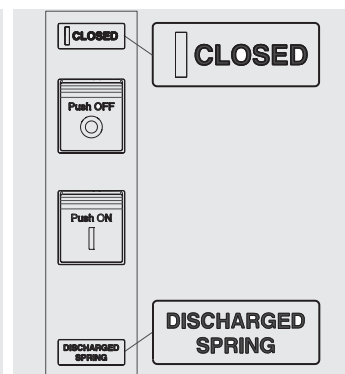

Figure 82
3. Circuit-breaker closed with springs discharged (see Figure 82).